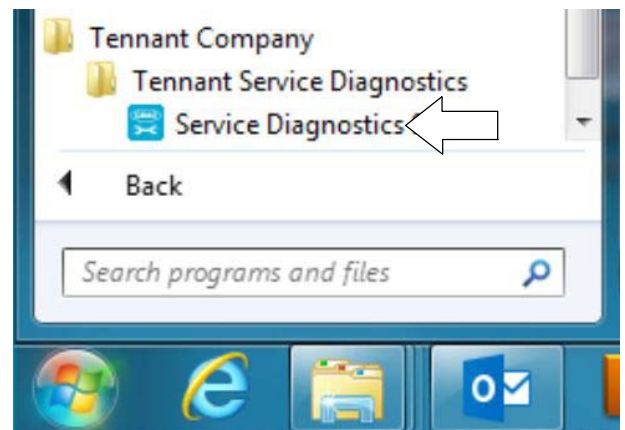

Fig. 8
1. Start the Service Software Application program "Service Diagnostics..." (Figure 2). See Figure 8 for further information.
The software is pre-installed on your computer as shown below. The software application is titled “Service Diagnostics” (Figure 8). ServiceLink computers have latest software version.
7. After the service application software is installed on your computer, refer to figure 8 to access the program.
5. After the application software is installed on your computer, refer to figure 8 to access the program.